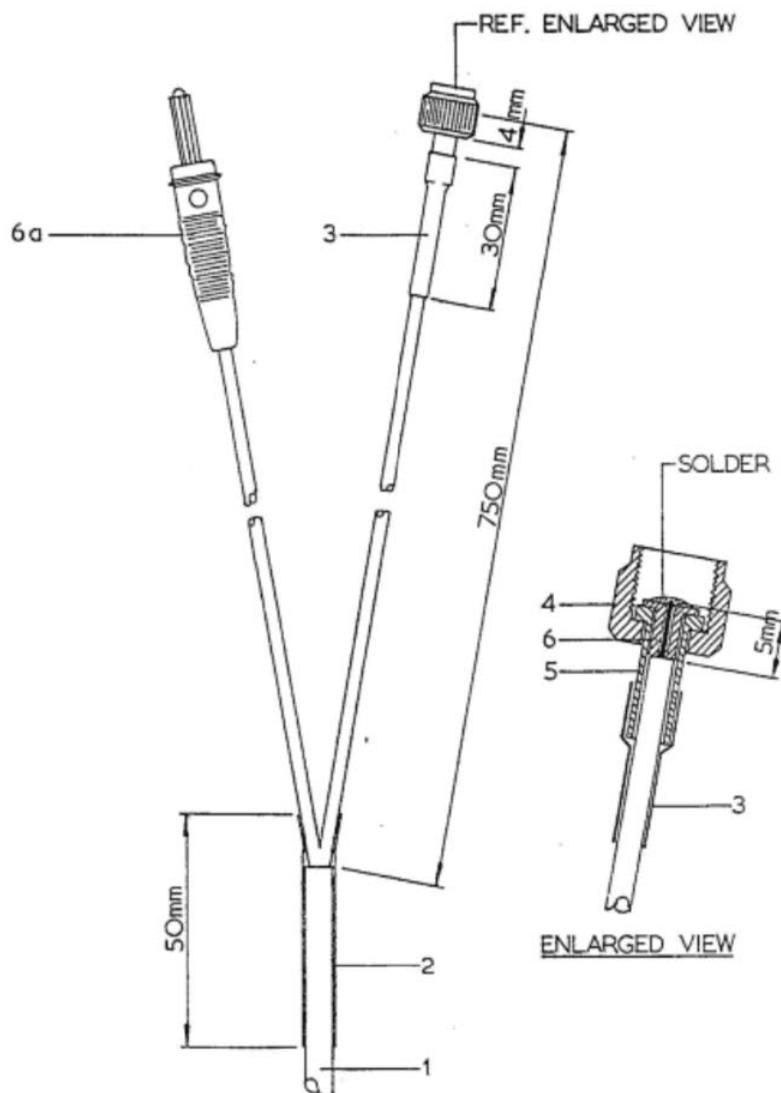

Figure 3
1. Divide 750mm of twin mains flex (1) and secure using 30mm of heats rink tubing (2).
3. Slide headshrinker tubing (3) retaining nut (4), insulating bush(5) and brass contact (6) onto one of the dividing cables.
7. Attach bunch plug to the remaining end of the cable in figure 3 .6 (a).
Repairs can be made individually to the positive (+) end with steps 2, 4, 5, and 6 and to the negative (-) end, by following steps 2 and 7. However, the shortened ends of the cable might be difficult to assemble conveniently onto the current meter, and it is usually preferable to reconstruct the cable as detailed in figure 3 16 .